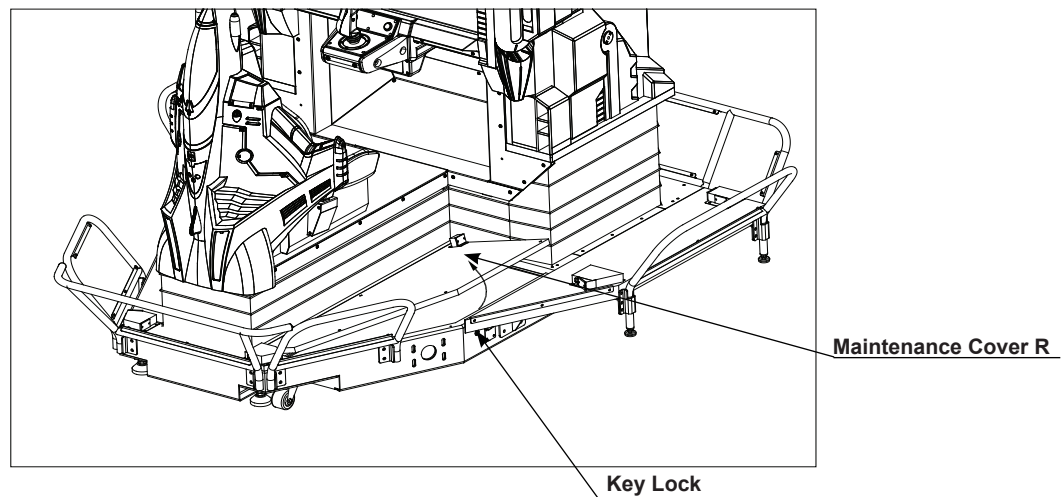

FIG. 6-4-2b
- 2 Unlock and carefully lift Maintenance Cover R in the direction as shown in FIG. 6-4-2b and separate it.